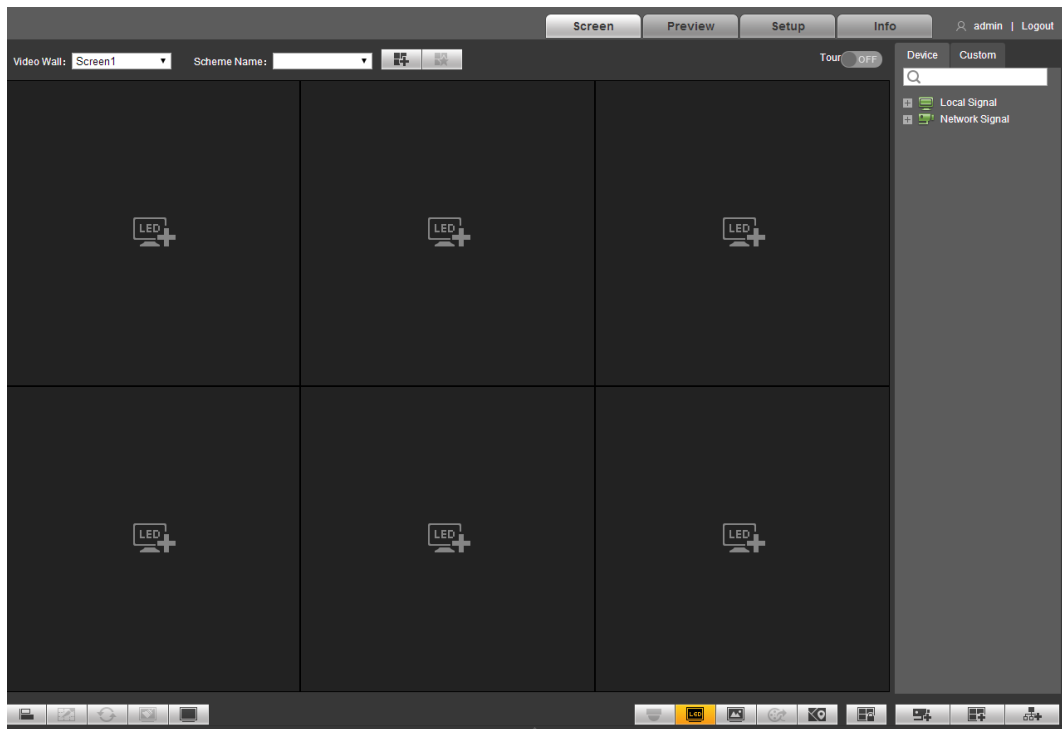

Figure 4-21
Step 1 Click . The system displays virtual LED interface, as shown in Figure 4-21.